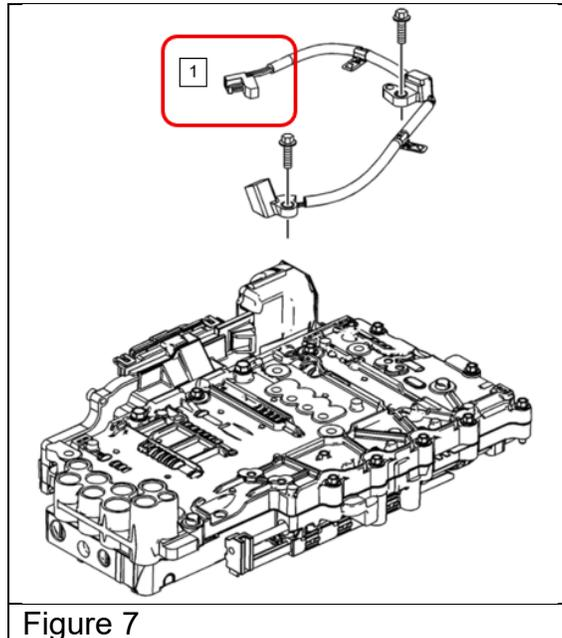

Figure 7
10. Place the valve body on a clean workbench and ONLY remove the speed sensor electrical connector (1). See Figure 7.